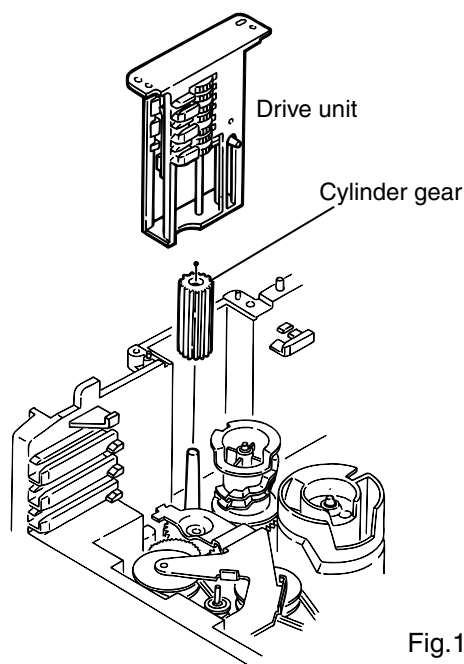

Fig.16
2. While turning the cam gear "q", align the Paul "r" position of the drive unit to the notch position(Fig.16) on the cam gear "q".